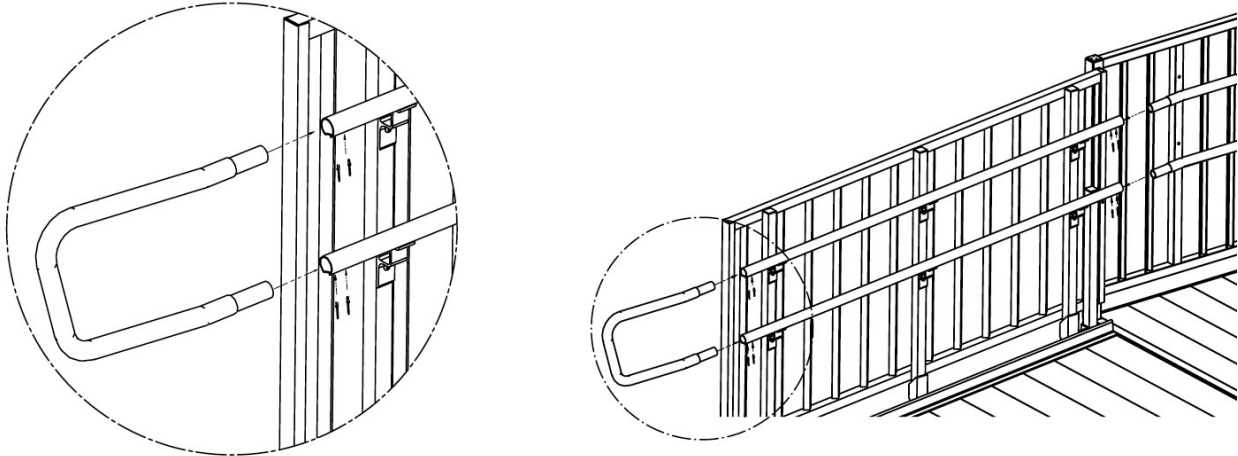

FIG. 41
- 8.8.1 The upper (adult) handrail is also installed in the same manner except the upper and lower termination loops are not used. These components will be replaced by either an upper or lower dual termination loop (FIG. 41).